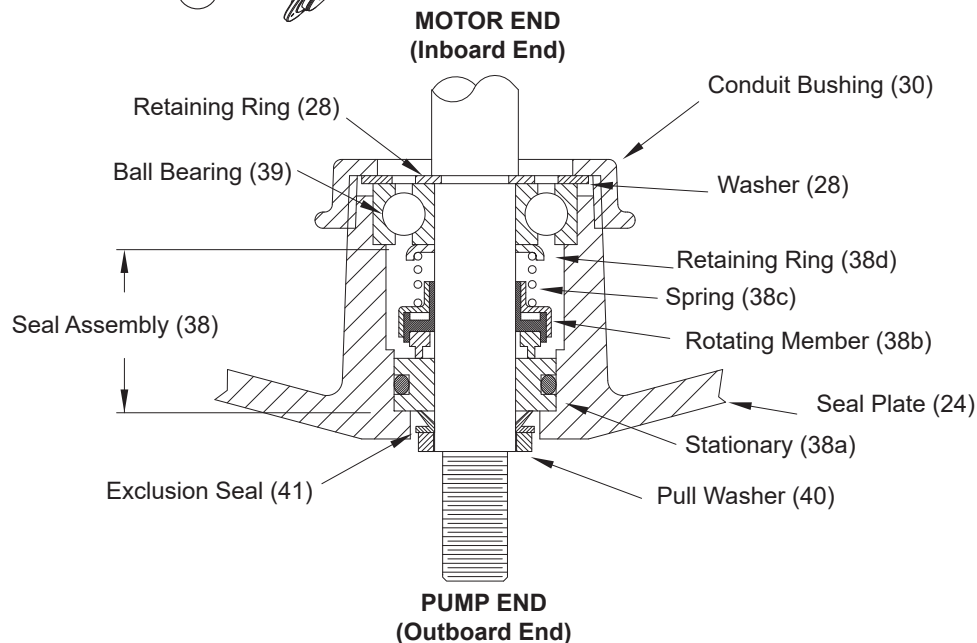

FIGURE 5
**Seal** - Remove rotating member (38a), spring (38c) and retaining ring (38d) from shaft. (See Figure 5). Examine all seal parts and especially contact faces. Inspect seal for signs of wear such as uneven wear pattern on stationary members, chips and scratches on either seal face. **DO NOT** interchange seal components, replace the entire shaft seal (38). If replacing seal, remove stationary (38a) from seal plate (24) by prying out with flat screwdriver.
**Bearing** - Examine bearing (39) and replace if required. If replacement is required, remove bearing (39) from motor shaft using a wheel puller. Washer (28), retaining ring (29) and conduit bushing (30) can now be removed from motor shaft.
Power - Refill the cooling oil as outlined in paragraph F-1.3. Make wire connections as outlined in paragraph F-3.3. Insert female end of cord plug into housing bore aligning timing mark with hole in terminal block (15) (see Figure 5). Compress cord plug with compression flange (10a) by tightening cap screws (4) into the motor housing (2). Torque to 132 in-lbs.